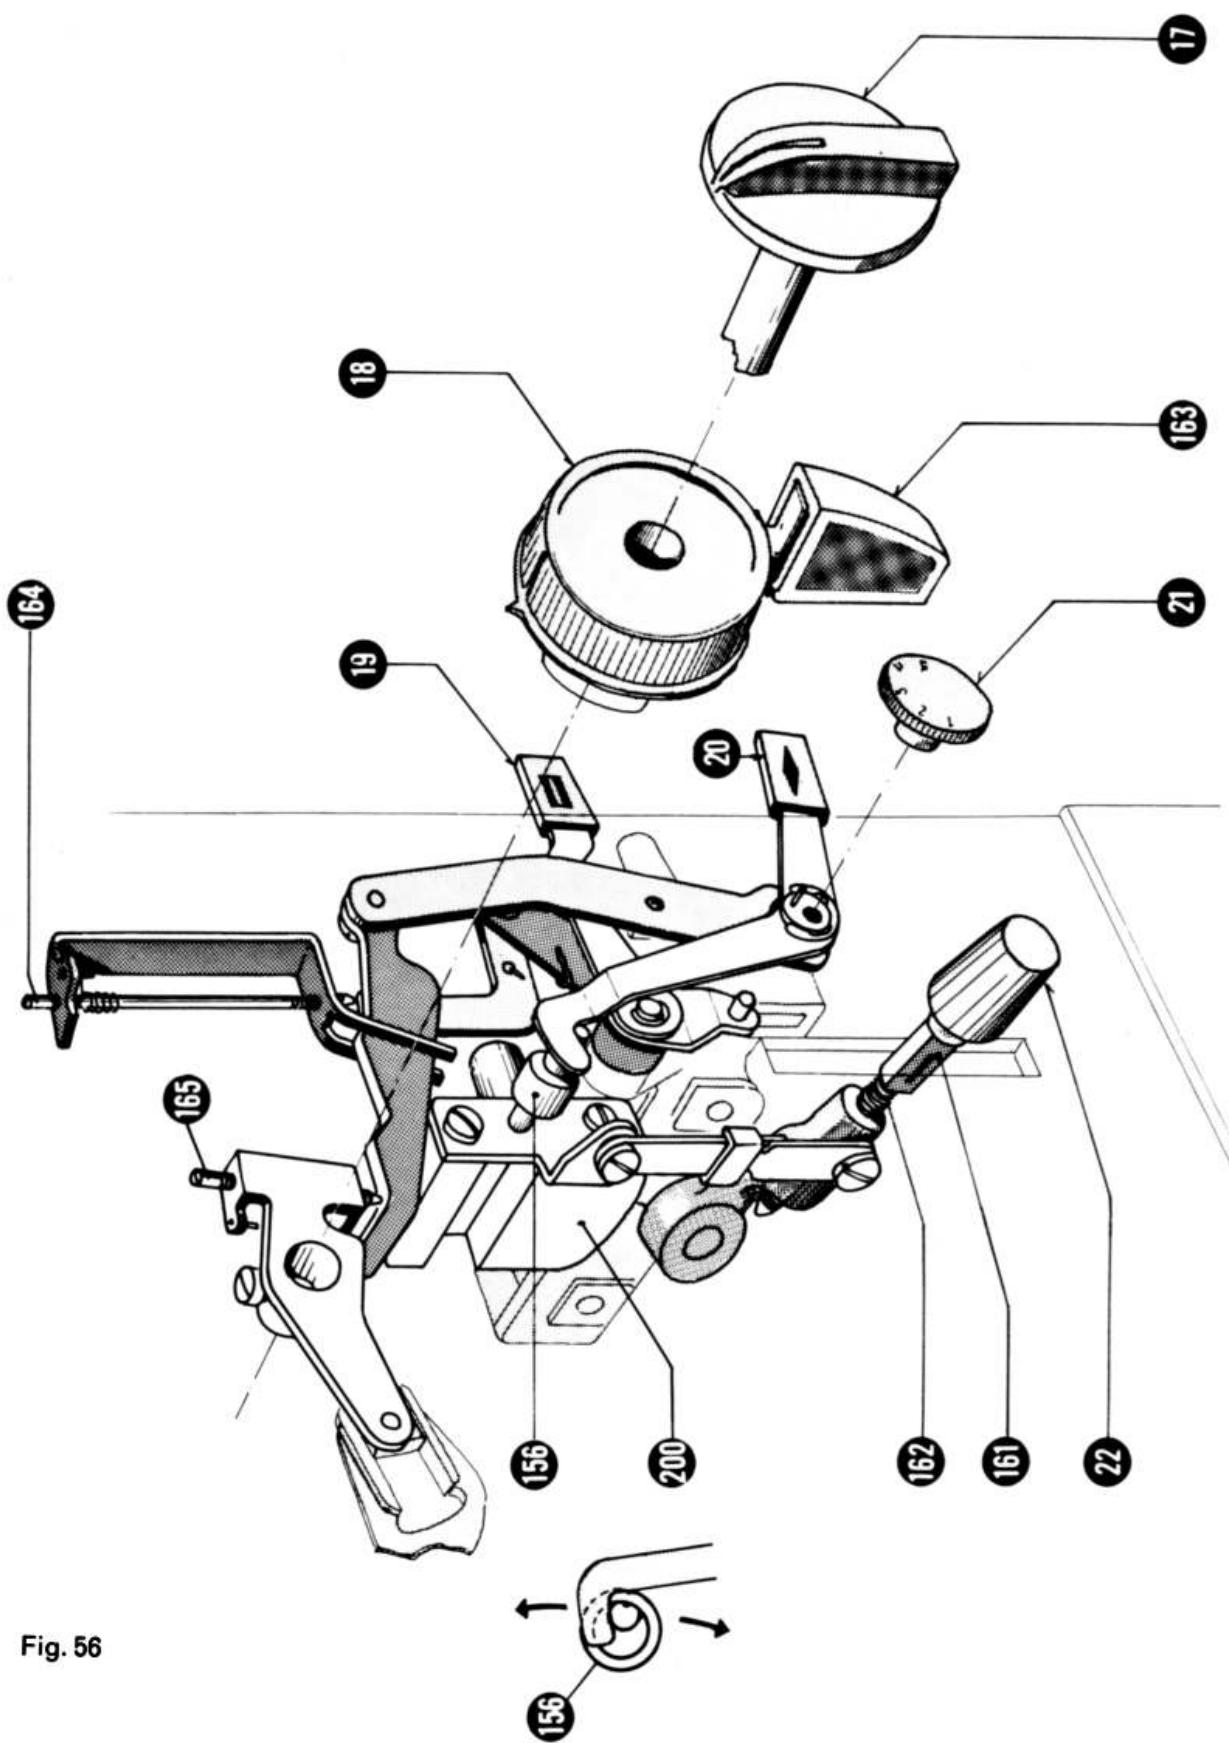

Fig. 56
41. Adjusting the automatic buttonhole device (Fig. 56)